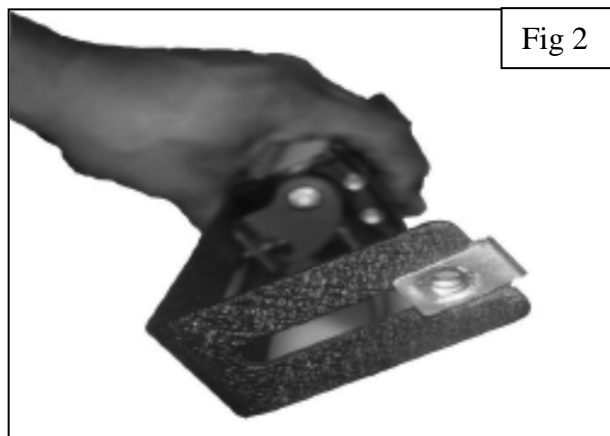

Fig 2
2. With the LED light attached to the support flange select the (2) 8mm nut clips place each nut clip into the slotted holes on either side of the support flange, as seen in (Fig 2) with the support flange prepare you will need to lay the grill guard face down to install the support flange